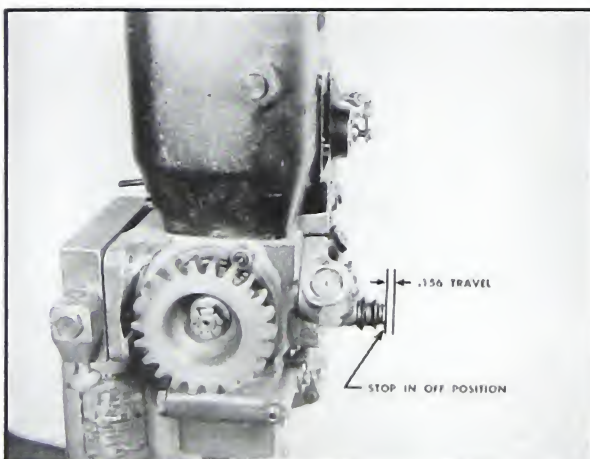

Fig. 5-372. Set overspeed-stop travel
2. Check the travel of the knob from cocked position to closed position; travel should be .156 inch. If it is not, remove the knob and screw the catch in or out until the proper travel is obtained. Fig. 5-372. See Page 5-84.